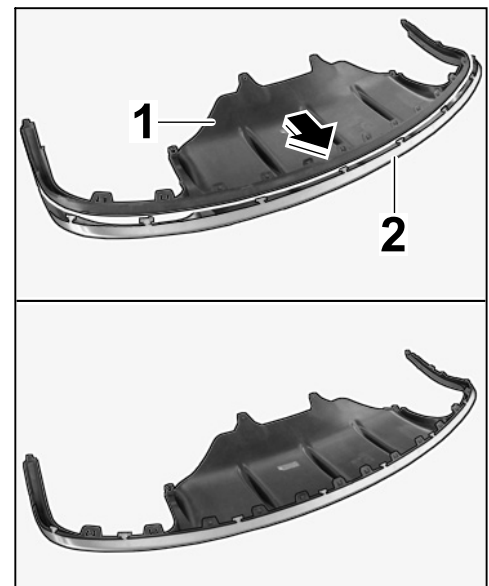

Figure 6
- 2.6 Position standard rear panel ⇒ *Figure 6-1-* in the stainless steel rear trim ⇒ *Figure 6-2-* (⇒ *Figure 6 -arrow-*) (installation position).